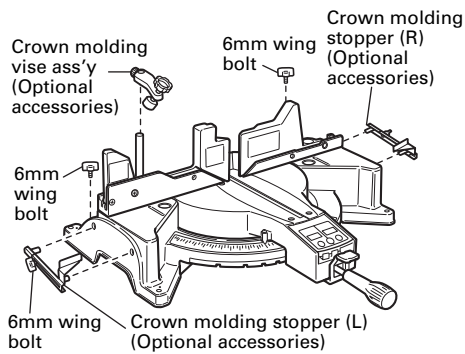

Fig. 41-a
- (1) Crown molding Stopper (L) and (R) (optional accessories) allow easier cuts of crown molding without tilting the saw blade. Install them in the base both-sides side to be shown in Fig. 41-a. After inserting Tighten the 6mm wing bolts to secure the crown molding Stoppers.